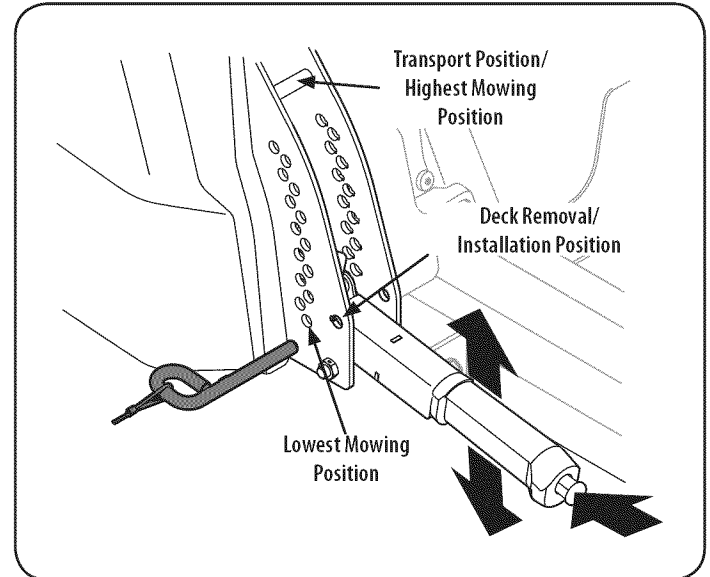

Figure 33
- a. Using the deck lift handle, raise the deck to the position that provides the most horizontal run of the belt between the deck idler pulleys and the PTO pulley on the bottom of the engine. See Figure 33.
- d. Lower the deck into the deck removal/installation position  using the deck lift handle. See Figure 33.
1. Place the deck lift handle in the highest mowing position See Figure 33.